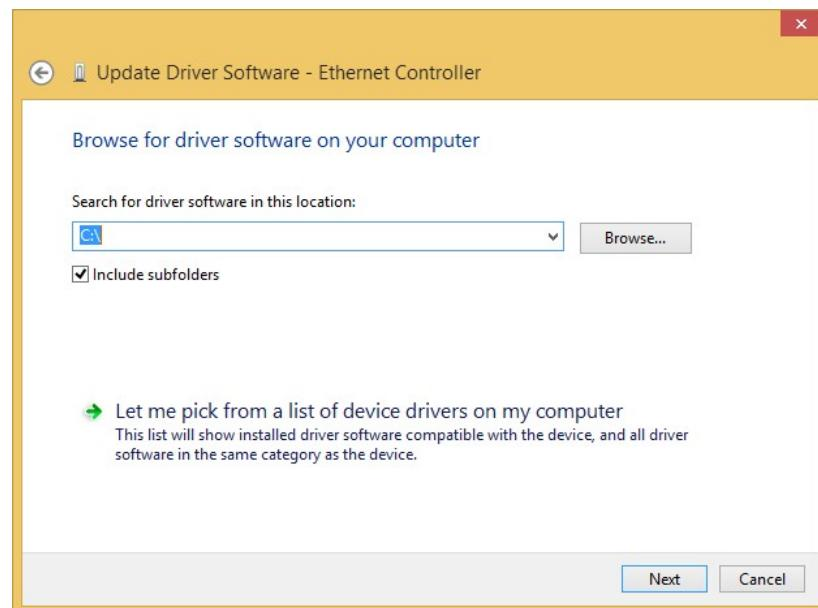

Figure 6-17: Locate Driver Files
**Step 9:** Click Browse to select “X:\2-LAN\Intel” directory in the **Locate File** window, where “X:\” is the system CD drive. (**Figure 6-17**).